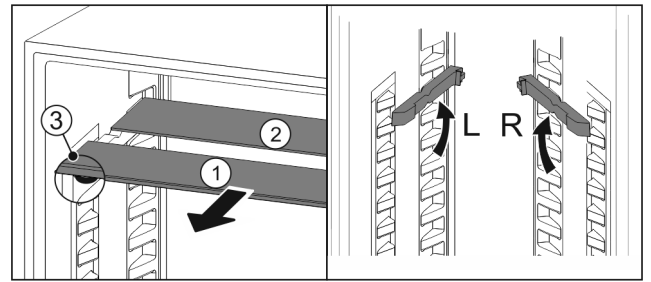

Fig. 94
- ▶ Pull the glass panels out Fig. 94 (1) from the front, one at a time.
- ▷ The glass panel Fig. 94 (1) and trim strip are at the front.
- ▷ The stops Fig. 94 (3) point down.